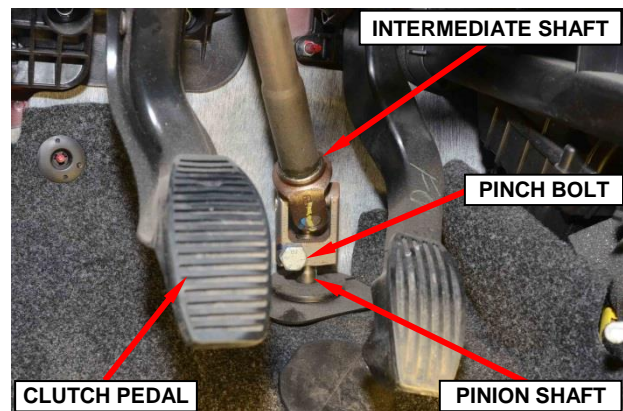

Figure 11 – Steering Column Intermediate Shaft
20. Position the steering wheel so that the steering column intermediate shaft lower pinch bolt is accessible then using a steering wheel holder, lock the steering wheel in place to keep it from rotating. This keeps the clockspring in the proper orientation (Figure 11).
21. Remove the steering column intermediate shaft pinch bolt. Discard the pinch bolt; it is not to be reused (Figure 11).
22. Separate the intermediate shaft at the base of the column from the steering gear pinion shaft (Figure 11).
23. Position the intermediate shaft so that the pedal assembly can be accessed (Figure 11).
40. Connect the steering column intermediate shaft to the steering gear pinion shaft. Do NOT reuse the intermediate shaft pinch bolt (Figure 11).
41. Install the NEW intermediate shaft pinch bolt. Tighten the bolt to 40 ft. lbs. (55 N·m) (Figure 11).